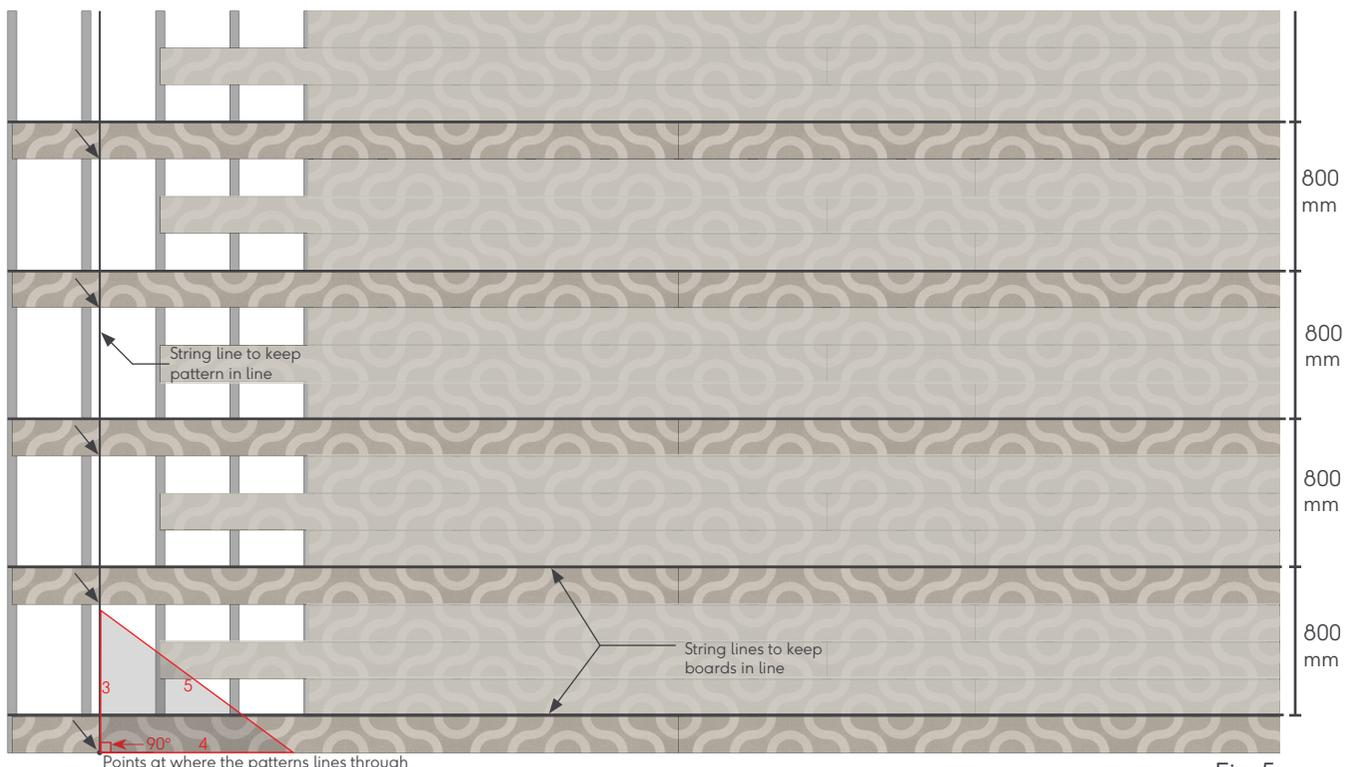

Fig.5
5. To ensure the pattern stays inline, set up another stringline exactly 90° to the boards (this is done simply using the 3-4-5 triangle principle). This should be set-out at a point on the pattern that lines through the other points on the pattern. An example is shown below on (Fig.5).